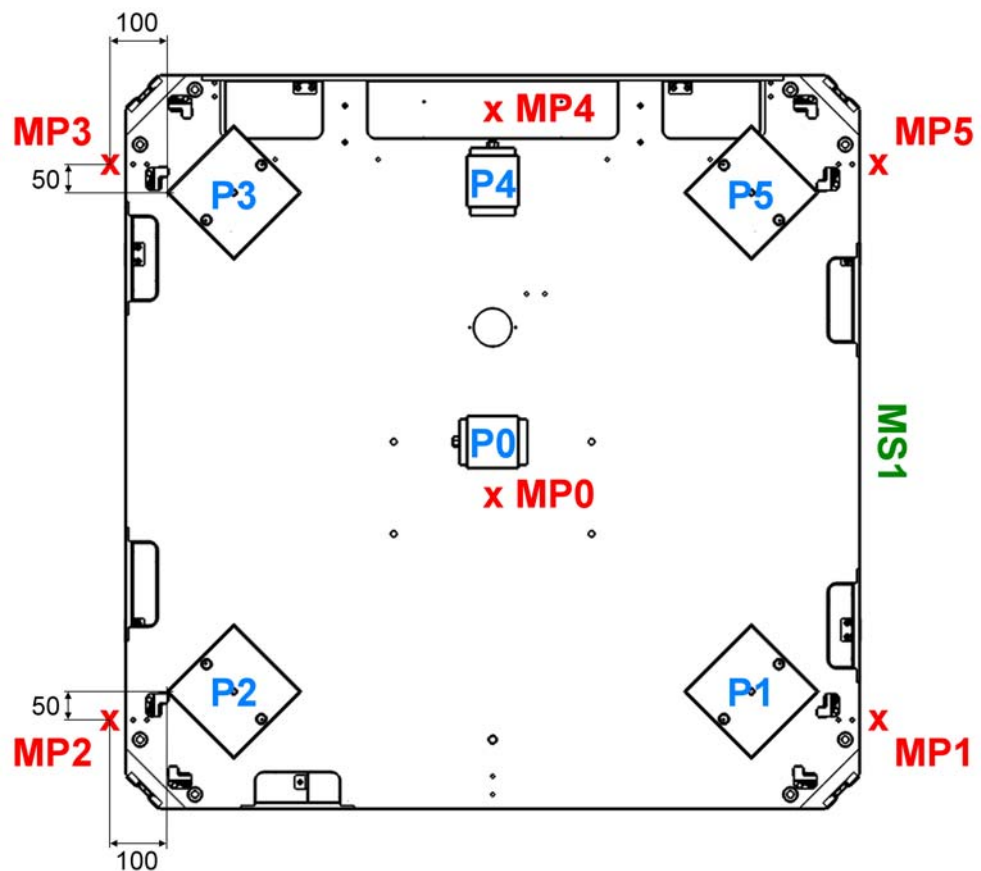

Fig. 8 Arrangement of the machine feet on the FEC20
- Position the machine feet on the installation area. → Fig. 8
- Mark measuring points MP0 to MP5 on the installation area. → Fig. 8